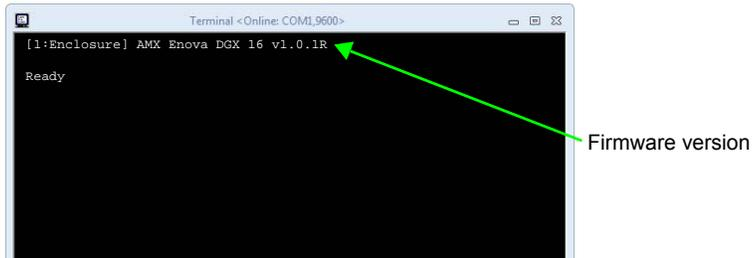

FIG. 121 Power-up splash screen in DGX Configuration Software’s Terminal view
- At system boot, the `~scrv0i1` setting is displayed (FIG. 121 on page 231).